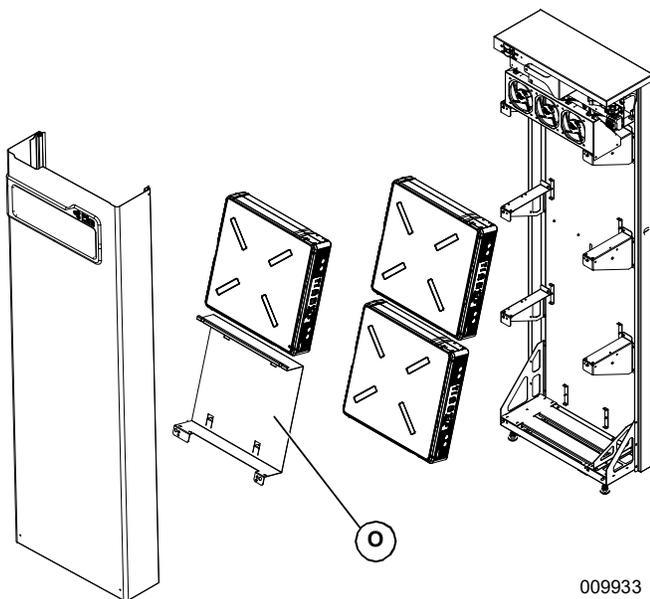

Figure 4-17. Module Spacer
See Figure 4-17. Module spacers (O) must be installed on any single module shelf.